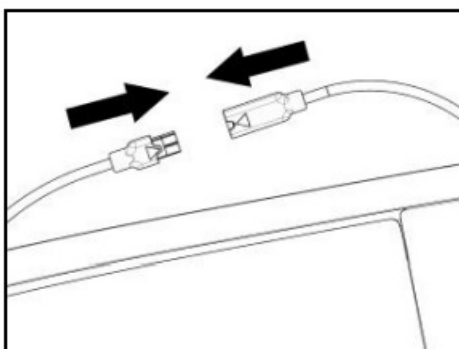

Fig. 46
- Connect the microphone to the connector coming out of the e-Box (Fig. 46).